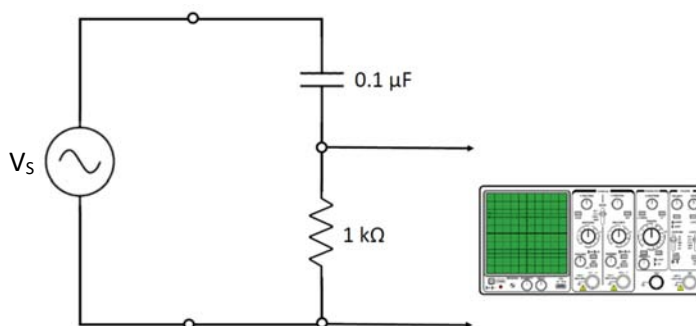

Figure 1
(1) Referring to the operation manual for the oscilloscope where necessary, turn on the oscilloscope and set the controls for dual beam operation, with alternate sweep. Set the trigger source to internal, channel 1, with the mode on automatic.
(2) Connect the circuit shown in Figure 1, and connect the channel 1 oscilloscope input across the input to the R-C network, and the channel 2 input across its output.
(3) Set the signal generator to produce a 500 Hz sine wave with 1 V peak-to-peak, and observe the traces on the oscilloscope screen.
Table 1: Measured/calculated parameters for values of RC Circuit given in Fig.1.